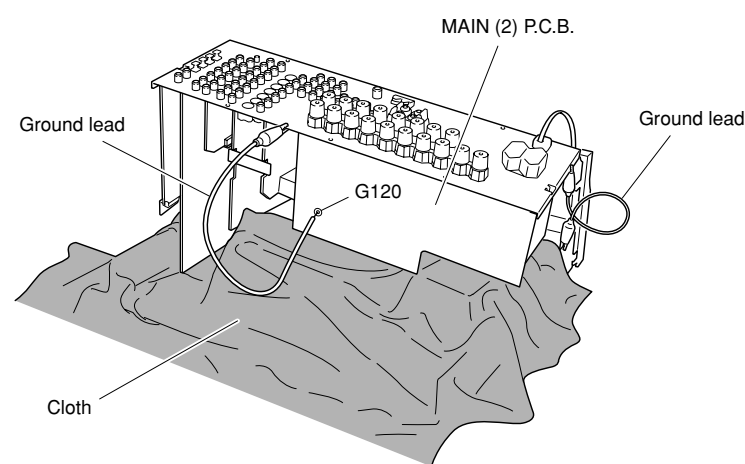

Fig. 6
- Remove 1 screw (10), 1 screw (11) and 1 screw (12).
- Holding the rear panel, raise the MAIN (2) P.C.B. so that its bottom face can be seen. (Fig. 6)